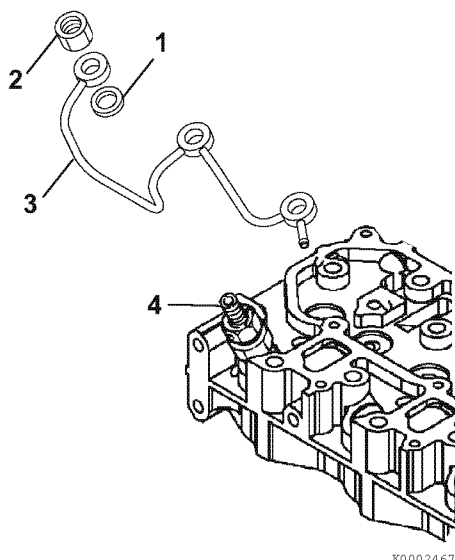

Figure 7-12
3. Remove all fuel return line nuts (2, **Figure 7-12**) from the injectors (4, **Figure 7-12**).
5. Carefully remove the fuel return line assembly (3, **Figure 7-12**).
6. Remove and discard the copper gasket (1, **Figure 7-12**) from each fuel injector.